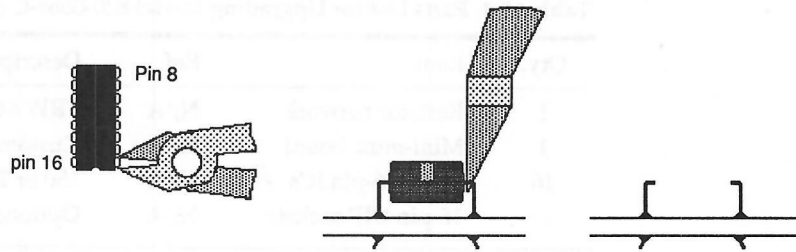

Figure 10-4 4164 RAM chip removal details. *Courtesy of Sophisticated Circuits, Inc.*
2. Use a pair of wire cutters to cut off all 16 terminal pins on all 16 of the RAM chips. As illustrated in Figure 10-4, cut the terminal pins as close to the chip bodies as possible. Since there are 16 pins on each of the 16 chips, this step involves making 256 cuts!